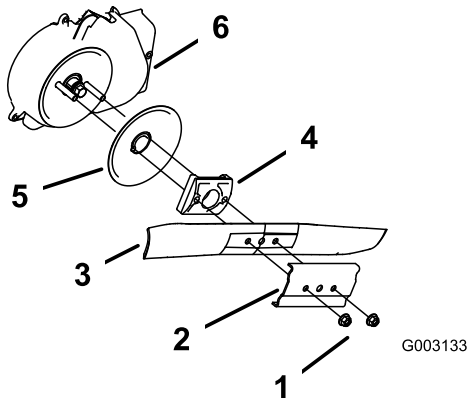

Figure 35
3. Remove the 2 blade nuts and the stiffener (Figure 35).
4. Remove the blade (Figure 35).
5. Remove the blade driver and disk (Figure 35).
6. Remove the blade brake clutch shield (Figure 35).
10. Install the blade and the stiffener that you previously removed (Figure 35).